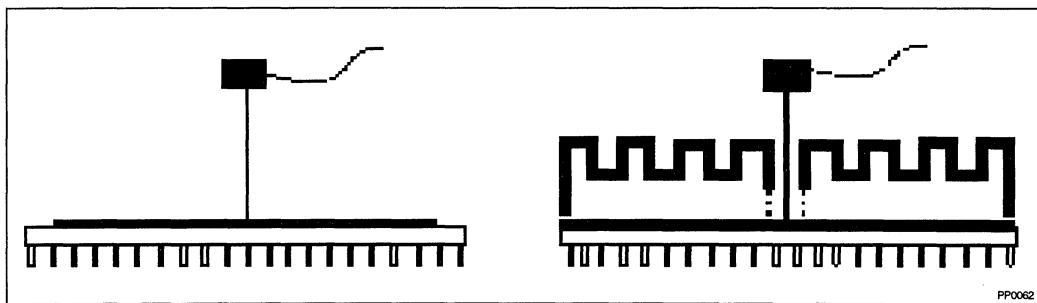

Figure 26-1. Technique for Measuring T_C *
To verify that the proper T_C (case temperature) is maintained, it should be measured at the center of the package top surface on the heat spreader (opposite of the pins). The measurement is made in the same way with or without a heat sink attached. When a heat sink is attached a hole (smaller than .150" diameter) should be drilled through the heat sink to allow probing the center of the package. See Figure 26-1 for an illustration of how to measure T_C .
- The thermocouple should be attached at a 90-degrees angle as shown in Figure 26-1.